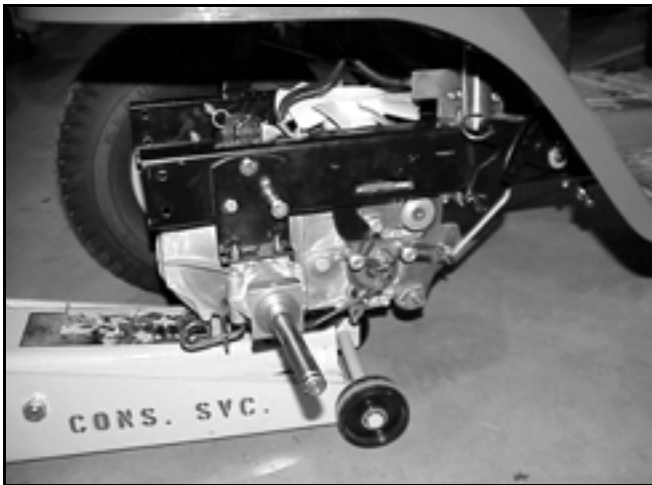

Figure 135
7. Install the left rear tire only and lower the unit until the tire just touches the ground. Install the battery and the battery tray and reconnect the battery cables (Figure 135).